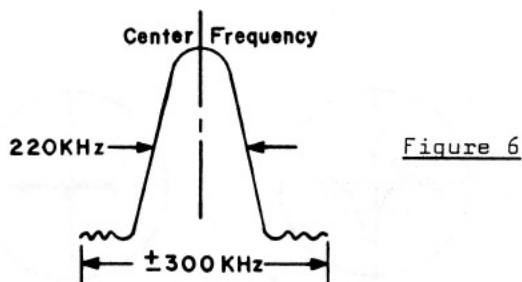

Figure 6
3. Tune the FM generator, modulated  $\pm 300\text{KHz}$  at approximately 20uV output level, to the receiver frequency. Connect an RF detector probe to pin 5 of the AN217 (IC202) and center the FM IF response on the oscilloscope. The FM IF bandpass characteristics are now being displayed. Adjust the transformer core of the RF converter T101 for maximum gain and symmetry (Figure 6).